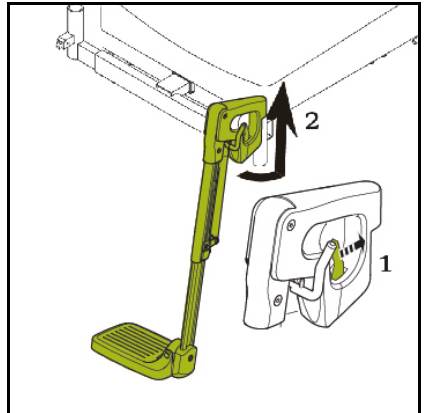

Figure 6.2
3. If possible, swing the legrests to the side (fig 6.2).